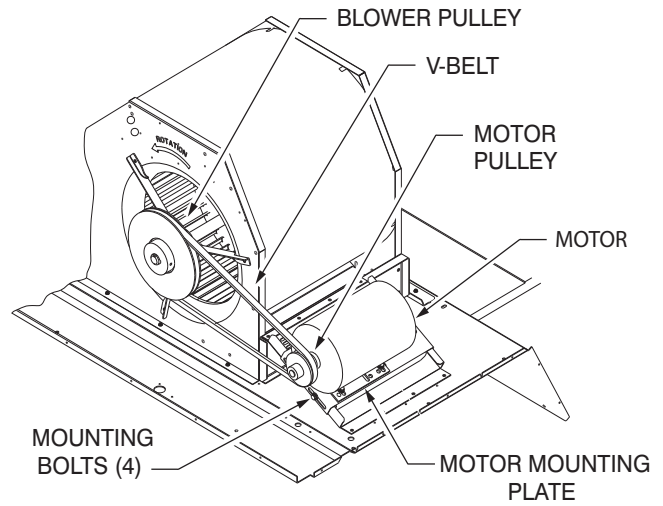

Fig. 51 — V-Belt Force Label
Measure the belt span length as shown in Fig. 51. Calculate the required deflection by multiplying the belt span length by $\frac{1}{64}$. For example, if the belt span length is 32 inches:
2. Set the tension gage to the desired tension (see Table 1 in Fig. 51). Place the large O-ring at that point.